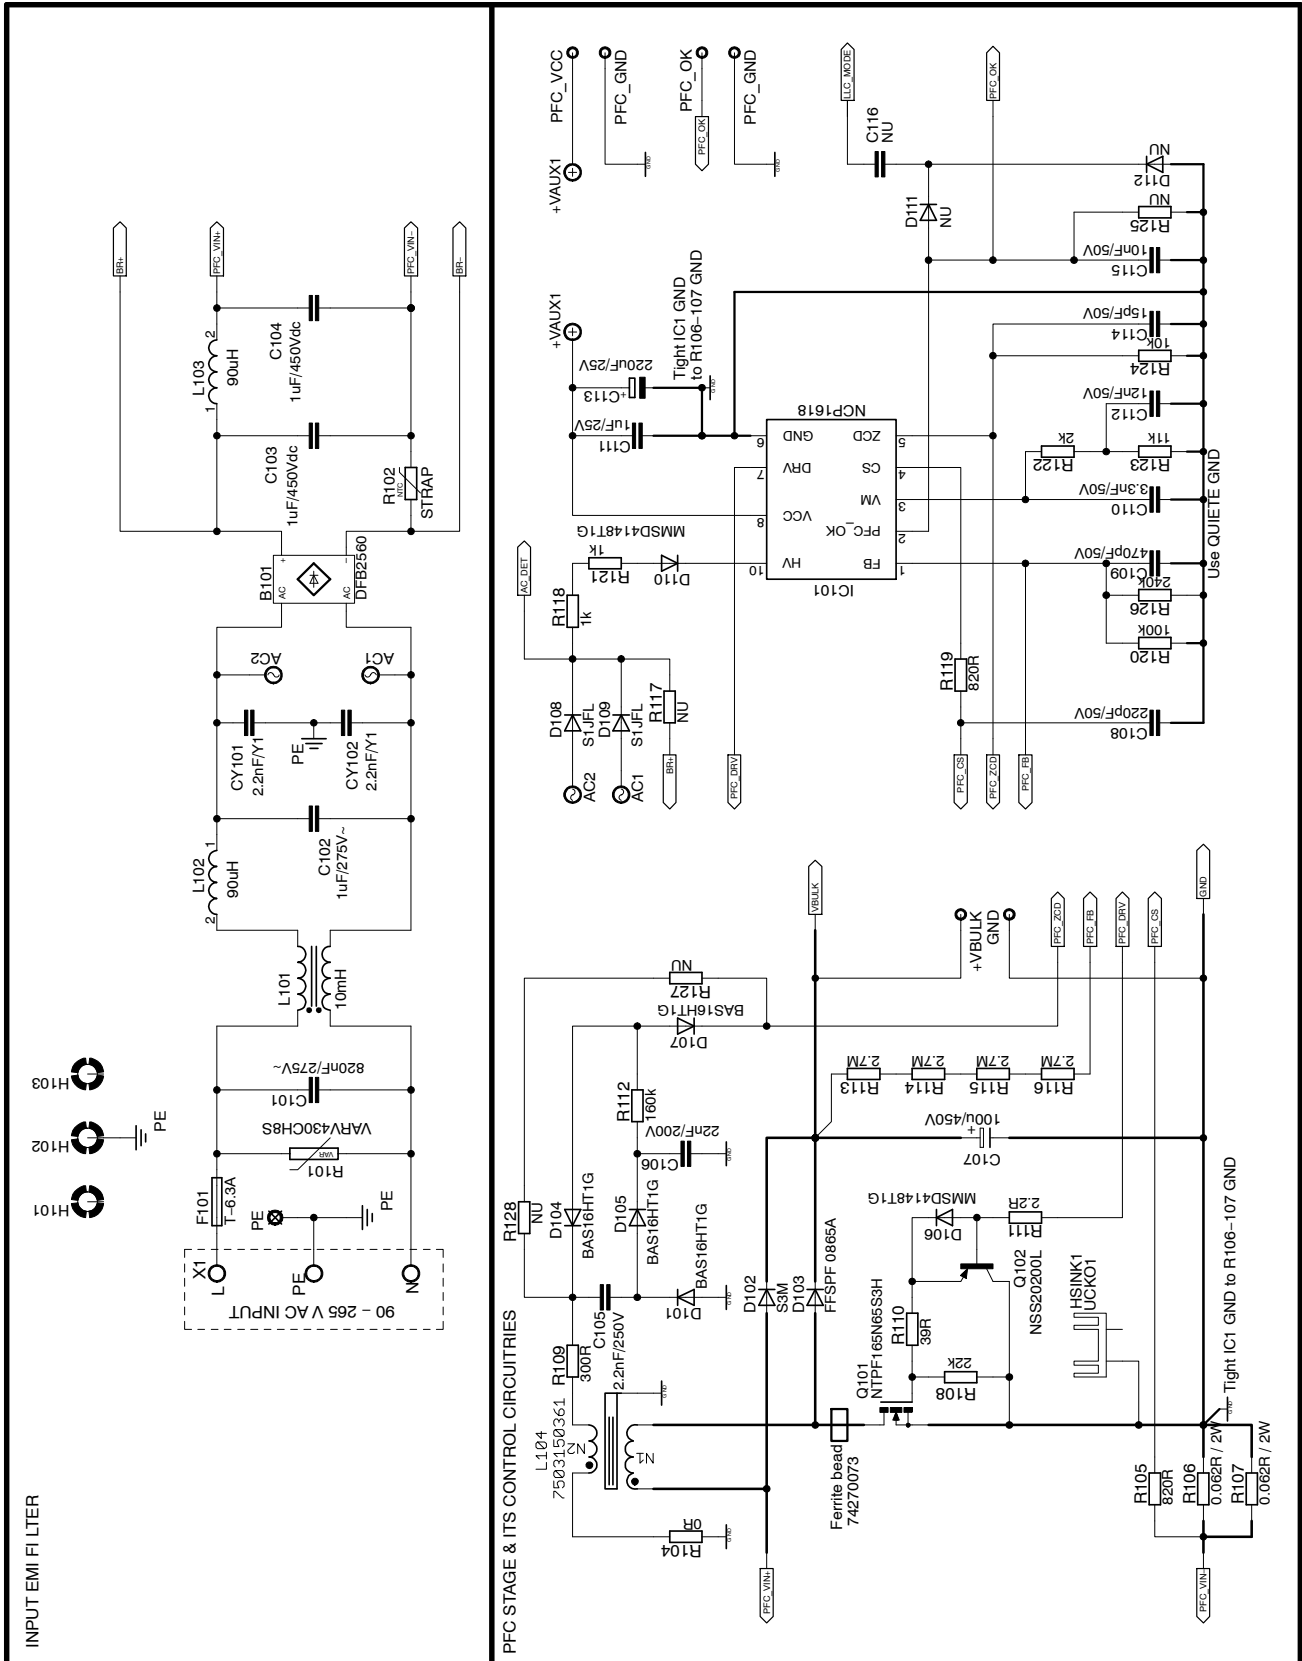

Figure 1. AOI Demo-Board Schematic – PFC Front Stage
Input side of evaluation board is protected by a several components. As first, it's a 6.3 A slow reaction fuse F101, which disconnects input in case wrong manipulation, line overvoltage stress event and unexpected stresses or conditions. Voltage dependent resistor R101 serves as input overvoltage protection triggered at approximately 275 V AC. Demo-board implements inrush-current limiting device, R102 NTC thermistor which is not assembled to allow clear efficiency measurement (Figure 1). It's recommended to assemble R102 in case of testing in hard conditions (using power grid directly or AC power supply without current limit). Use appropriate NTC inrush current limiter in case of need.
EMI filter is formed by components L101, L102, L103, C101, C102, C103, C104, CY101 and CY102 (Figure 1). The IC101 – NCP1618 measures input line voltage via diodes D108, D109, D110 and resistors R118, R121 to detect present of Brown-out/ Brown-in and SAG conditions as well as distinguishes input line level. This circuit also provides PFC Vcc Start-up feature for building controller Vcc supply. The Power Factor Corrector (PFC) power stage implements standard boost PFC topology composed of following power devices; bridge rectifier B101, power (boost) inductor L104, power MOSFET switch Q101, boost power diode D103, bypass diode D102, shunt resistors R106–R107 and bulk capacitors C107, C201–C202. The PFC controller IC101 (NCP1618) senses input voltage directly via pin 10 (HV) through network of D108, D109, D110 and resistors R118, R121. The PFC inductor current is monitored on the shunt resistor R106–R107. The series resistors R105, R119 and 127 set maximum current. Capacitor C108 that is connected between mentioned resistors filters noise caused by switching. The resistor R127 must be placed as closed as possible to the controller pin. Maximum current through resistors can be calculated based on NC1618 datasheet. The PFC feedback divider has high impedance (approximately 10.8 M Ω) which ensures low consumption in no-load or light-load mode conditions. PFC FB divider is created from upper resistor R113–R116, lower resistors R120, R126 and capacitor C109. The PFC FB signal is filtered by capacitor C109 to minimize noise caused by the parasitic capacitive coupling between pin and other nodes that handle high dV/dt signals. PFC FB divider sets nominal bulk voltage level which is 400 V approximately. NCP1618 features positive bulk voltage hiccup, so that while LLC Stage runs under burst mode, NCP13994 forces NCP1618 to enter skip mode (stand-by mode), thus bulk-voltage is maintained between +103% and 98 % of nominal bulk voltage i.e. between ~420 V and ~394 V on this design. NCP1618 can be sent into soft-skip-mode (stand-by mode) by two ways. This demo-board implements only one solution – via pulling-down the PFC-OK pin. Refer to NCP1618 datasheet for more detailed description. The PFC-OK is directly pulled-down by IC203 via resistor R219. Once, IC201 NCP13994 enters to skip, VBULK pin (3) generates low level impulse and pulls down